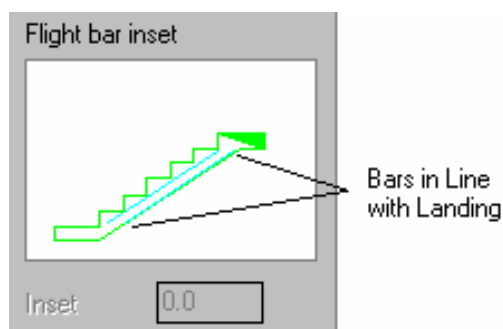

Figure 13.6.2:2 Flight Bars between Landings
**Flight Bar Inset** The flight bars are assumed to run between the line of the structural top face of the lower landing and the structural soffit of the upper landing as shown in Figure 13.6.2:2 below.